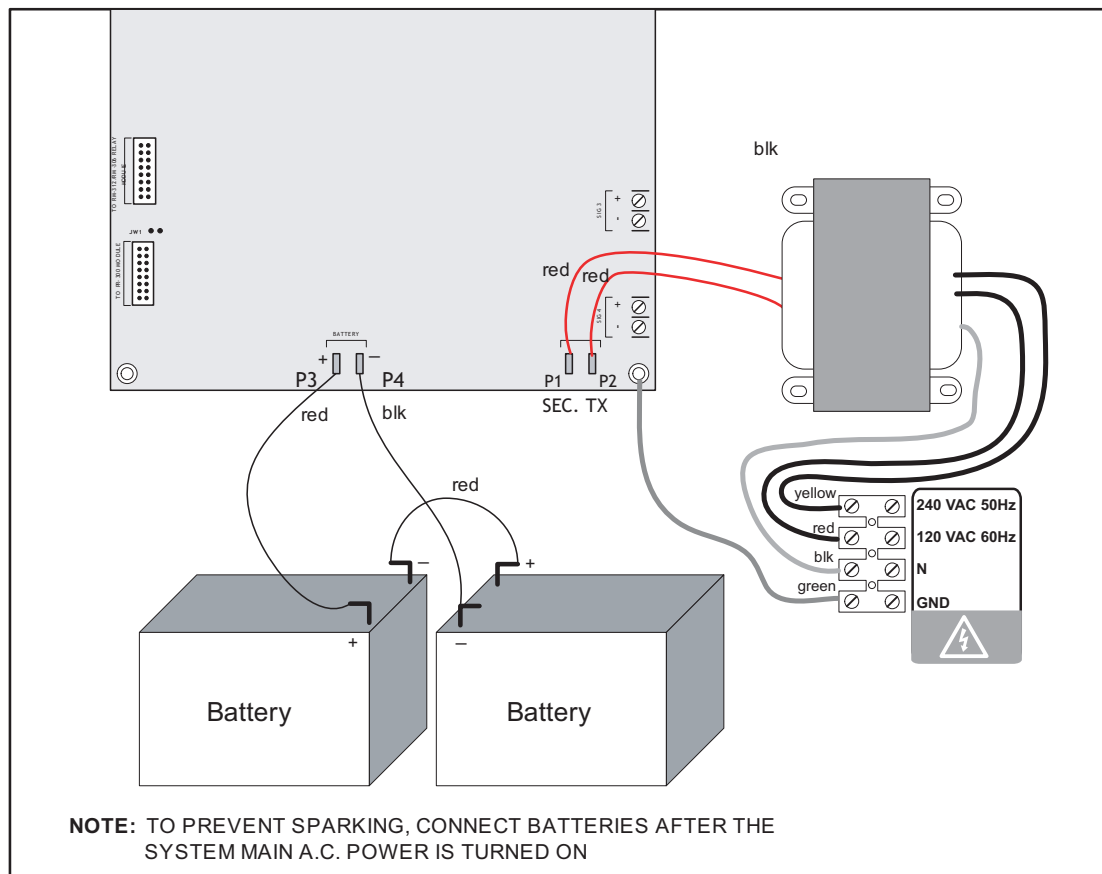

Figure 26 Battery connections
3. Connect the batteries as shown in Figure 26 below. Observe the correct polarity: the red wire is positive (+) and black wire is negative (-).